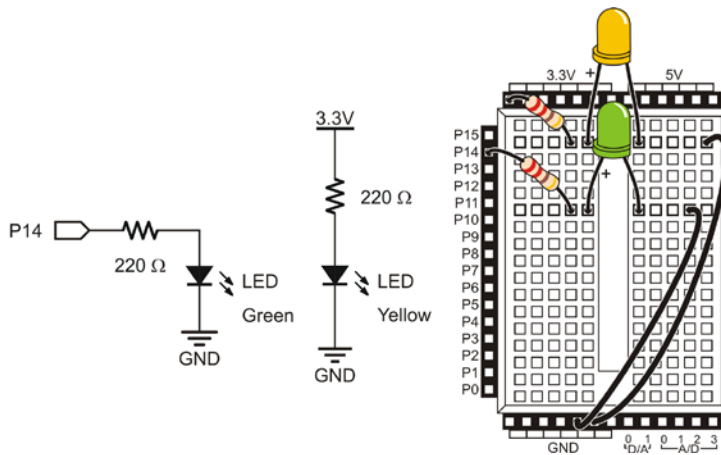

Figure 2-14
- Turn off power, and then connect the second LED circuit's resistor lead to P15 as shown in Figure 2-14.